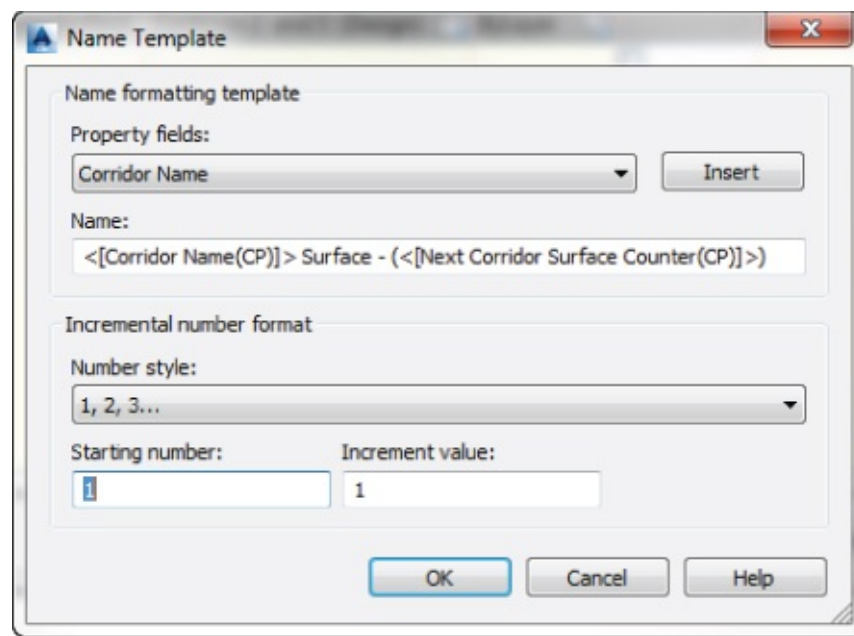

Figure 9.45 The Name Template dialog for corridor surfaces
The third button at the upper left of the Surfaces tab of the Corridor Properties dialog is the Surface Name Template button. When you click this button, the Name Template dialog shown in Figure 9.45 appears.
Here you can set the formatting for the corridor name as well as the number style, starting number, and increment value. The Property fields are Corridor Name and Next Corridor Surface Counter. Based on the name shown in Figure 9.45, the next surface created for the corridor named North River Crossing will be named North River Crossing Surface – (1). The Number style can be set to 1, 2, 3 ... or 01, 02, 03 ... or a multitude of other styles based on the number of leading zeros.